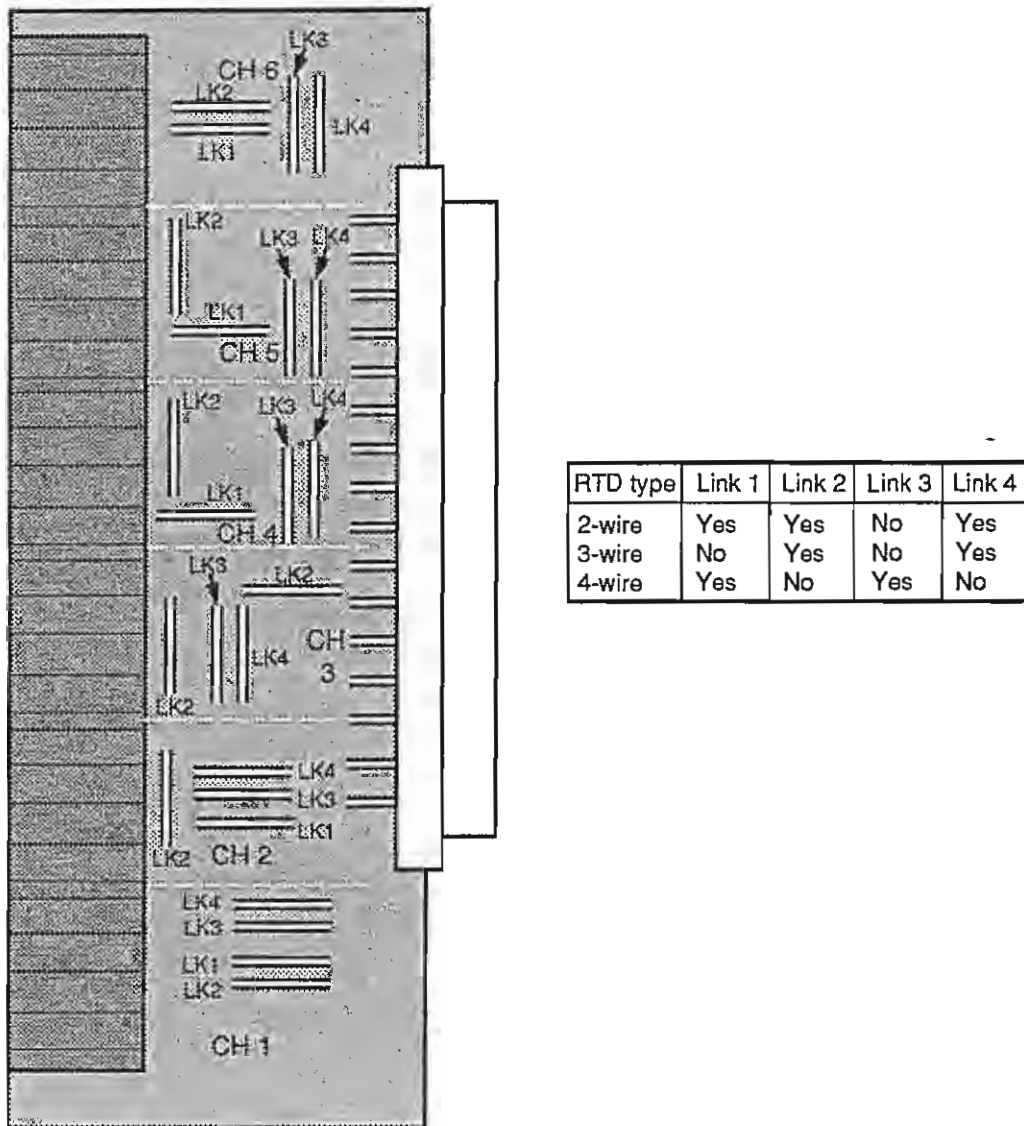

Figure 2.2.2a 6-Channel RTD SIM internal links
- a) Figure 2.2.2a shows the connections to be made for 2-wire, 3-wire and 4-wire RTDs..